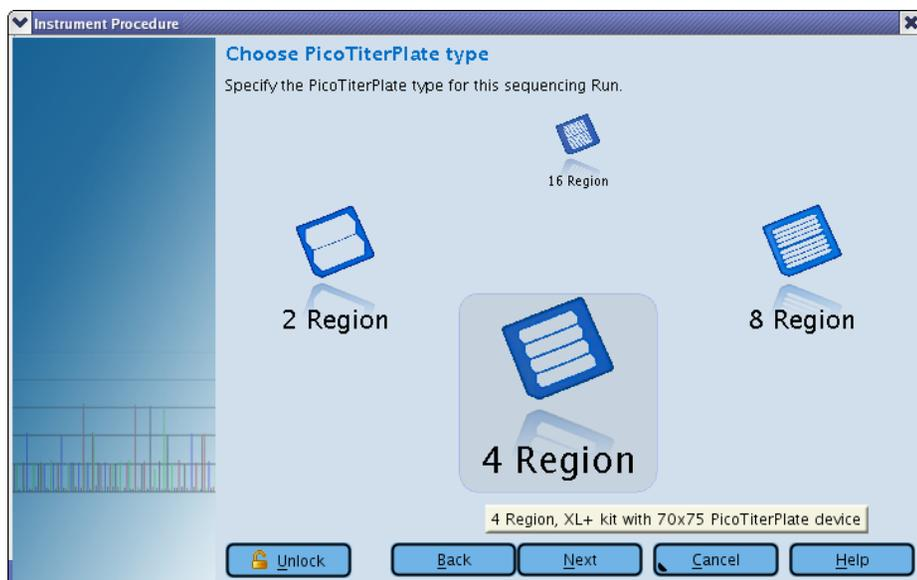

Figure 24: The Run Wizard's fifth window: Choose PicoTiterPlate type
- This opens the Run Wizard's fifth window: Choose PicoTiterPlate type (Figure 24).